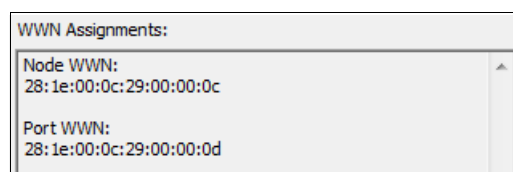

Figure 7-39 WWN assignments of a VM
4. Reopen the Virtual Machine Properties, select the **Options** tab, click **Fibre Channel NPIV**, and note the WWNs for the VM as shown in Figure 7-39.